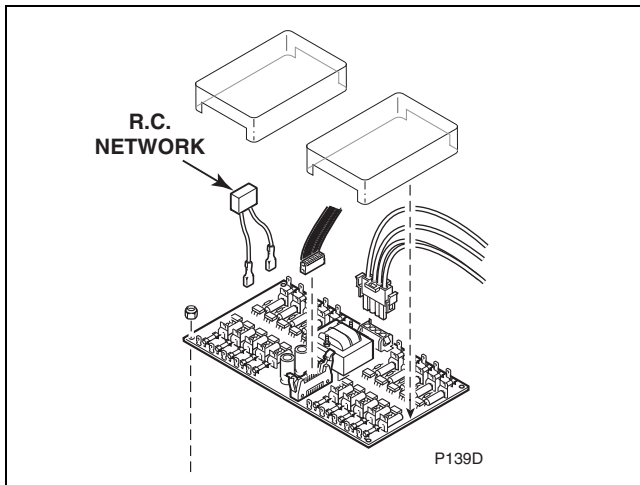

Figure 8
- c. Remove the two clear covers from the board. Refer to *Figure 8*.
NOTE: If the board is being replaced, remove the R.C. network for installation of the new board. Refer to *Figure 8*. Some R.C. networks are not removable. In these cases, the replacement board will include a new R.C. network.